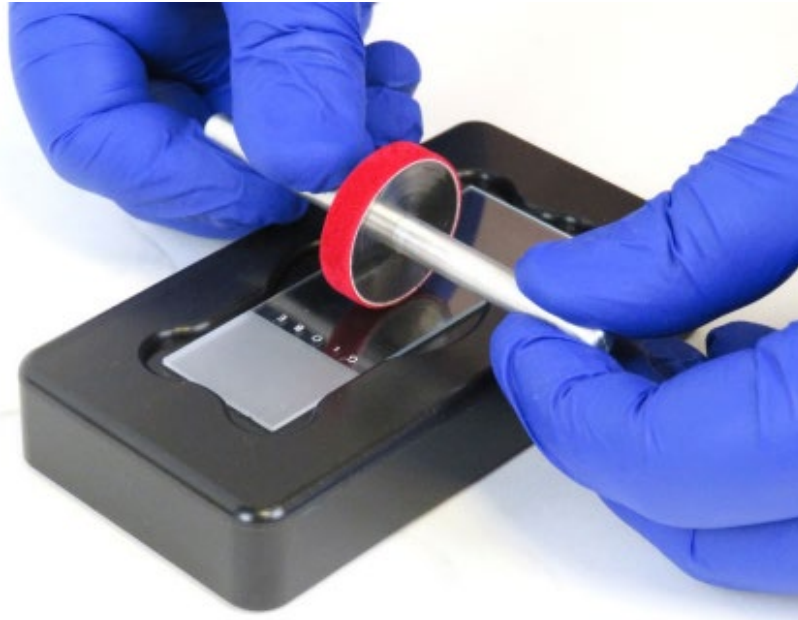

Figure 6: Adhering Padding using the Repadding Roller Tool Kit
8. Referring to the instructions that come with the Repadding Roller Tool Kit, place fresh padding material on the tool you have chosen (shown in *Figure 6* below). Press firmly to ensure the pressure-sensitive adhesive makes a good connection to the tool, otherwise the corners may begin to lift as abrasive and water are applied. It may help to warm the Dimpler tool and/or the padding strip to ensure good adhesion between the two.